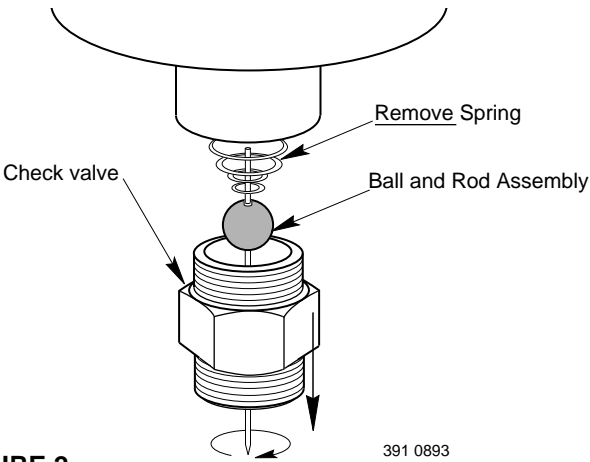

FIGURE 2
1. Inlet on Model 6D primer has a spring loaded check valve for use when installed on pump suctions. When installing primer on the discharge or pressure side of pump, **remove spring** from the valve assembly as shown in Figure 2.